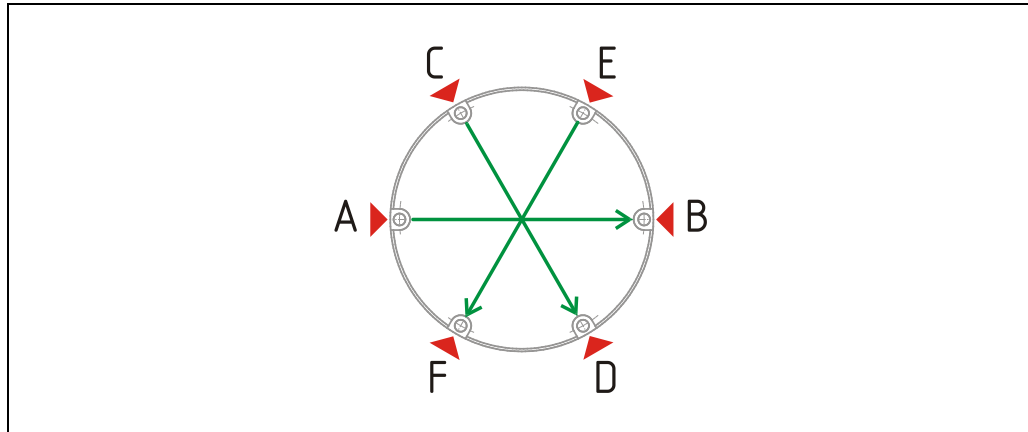

Figure 14: To screw the connection cap - sequence
Insert fastening screws (9) via the through holes (2) and screw them through the threaded holes (8) using a Torx key in pairs and cross according to Figure 14 with a torque of 3 Nm.